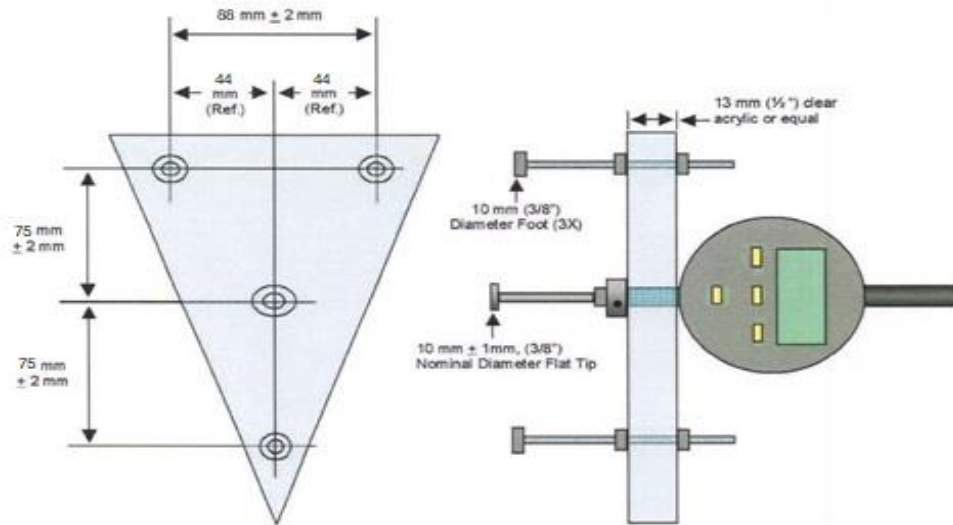

Figure 1
7. Example measuring device shall consist of a two or three footed flat support frame with dial indicator comparator that can measure changes in surface height at a specified location. See Figure 1. The unit shall be equipped with a micrometer gauge capable of measuring up to nominal 25 mm (1 inch) graduated to 0.02 mm (0.001 inches). The foot/anvil of the indicator shall have a diameter of 10 mm +/- 1 mm (0.394 inches +/- 0.039 inches) with an exerted force of 100 g + 14 g (3.5 oz + 0.5 oz). Other suitable devices may be utilized, provided they offer at least equivalent measurement capability. It is recommended to use the same calibrated measurement gauge for before and after testing measurements.